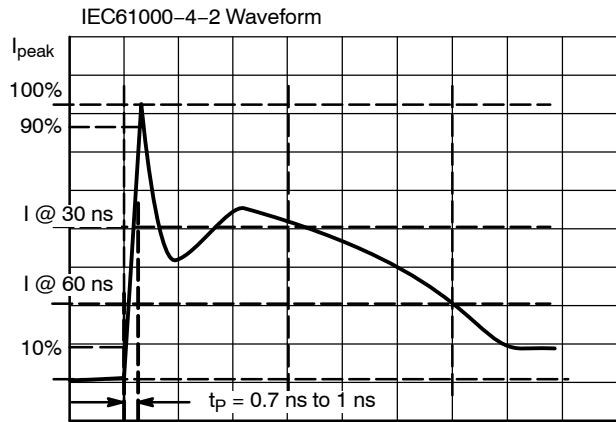

Figure 26. IEC61000-4-2 Spec
6. For test procedures see Figures 26 and 27: IEC61000-4-2 spec, diagram of ESD test setup and Application Note AND8307/D.